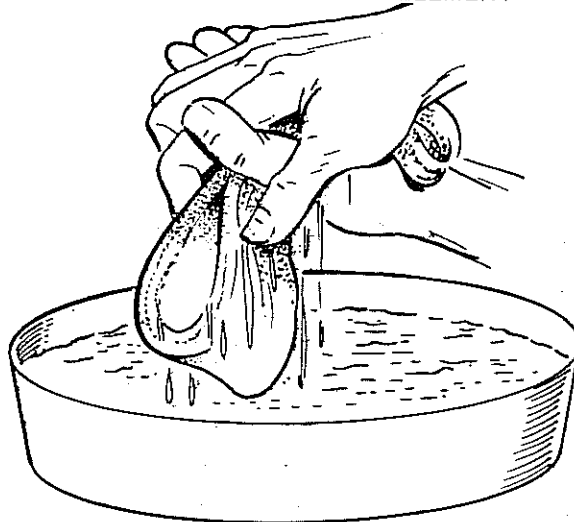

FIGURE 10. AIR CLEANER ASSEMBLY
1. To clean precleaner, wash in water and detergent referring to Figure 10. Remove excess water by squeezing like a sponge and allow to dry thoroughly. Distribute three tablespoons of SAE 30 engine oil evenly around the precleaner. Knead into and wring excess oil from precleaner.